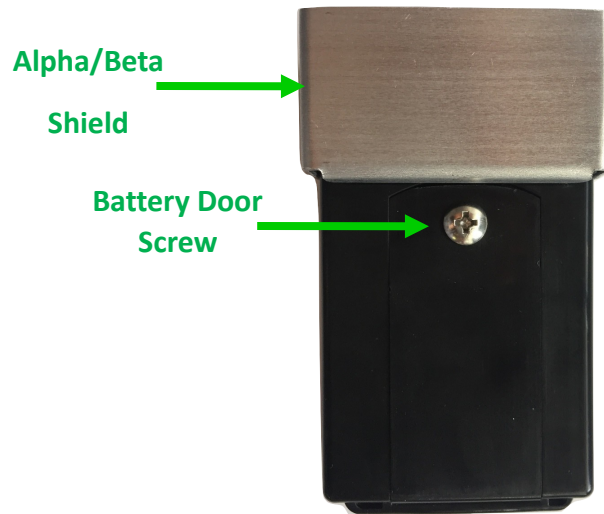

Figure 5.1 Back View of the Case
- 1) Make sure the Alpha/Beta shield is pushed all the way to the top of the case where it won't block battery door for opening or closing (see Figure 5.1);
- 2) Unscrew the battery door screw (see Figure 5.1);